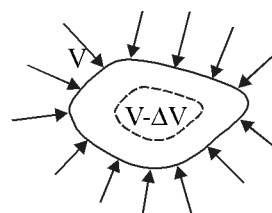

Fig. 5.3
2. **Volumetric stress:** When the same pressure or force per unit area is acting at each point of the body normally then force per unit area is called volumetric stress or also called pressure. When pressure on a body is increased from P to $(P + \Delta P)$ the volume of the body decreases from V to $(V - \Delta V)$ as shown in (Fig.5.3). Change in pressure ΔP is the force per unit area due to which volume of the body changes.